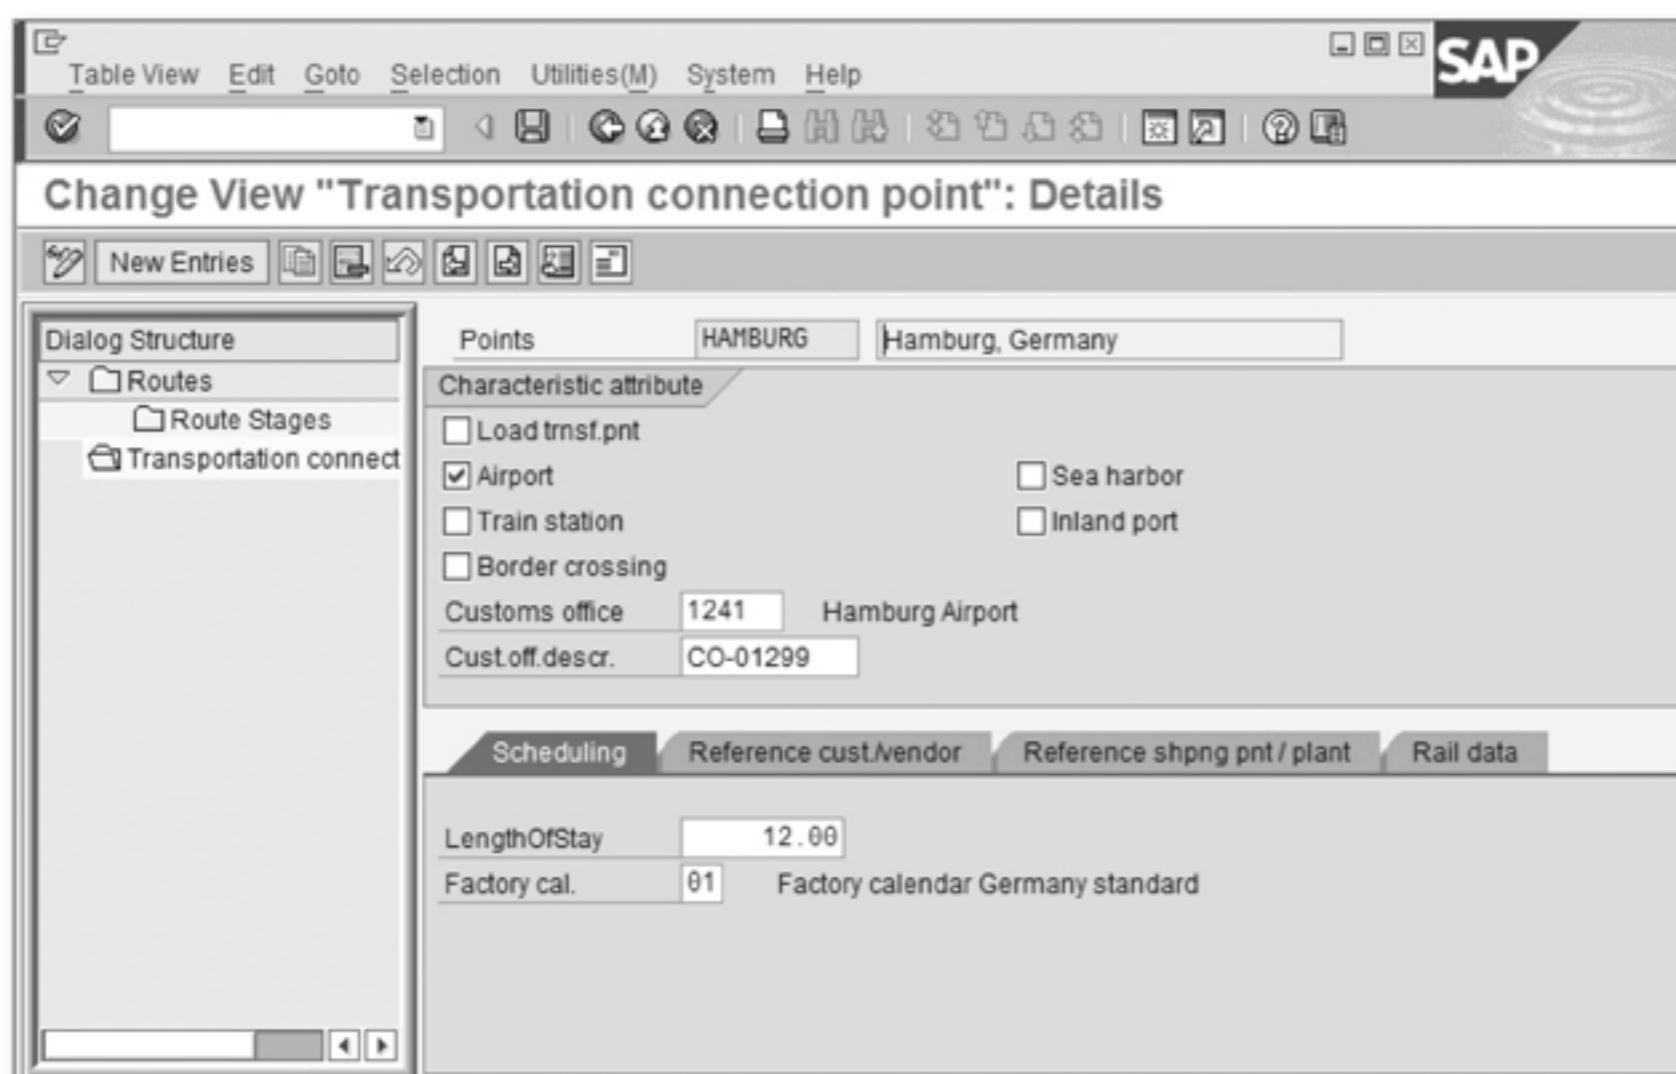

Figure 3.41 Route Transportation Connection Point Data
- ▶ **Route:** In route data, you store the geographical information needed for foreign trade processing but also, as we discussed in Chapter 2, you have the option to maintain connection points. There you can maintain data for customs offices, as you can see in Figure 3.41.